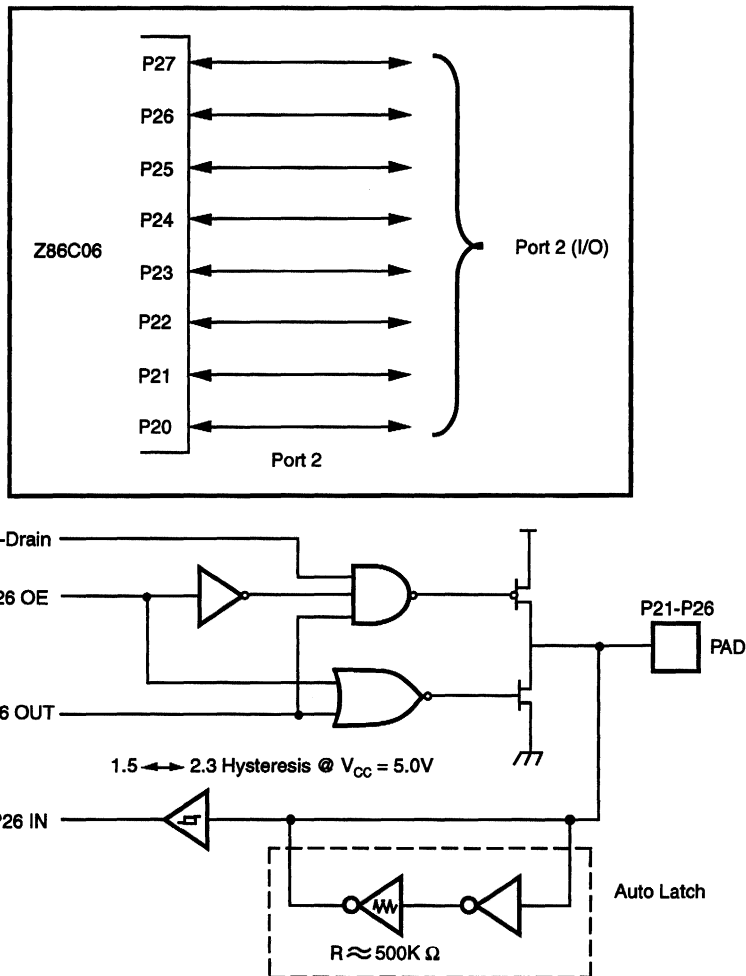

Figure 4a. Port 2 Configuration (Z86C06)
Port 2 (P27-P20). Port 2 is an 8-bit, bi-directional, CMOS compatible I/O port. These eight I/O lines can be configured under software control to be an input or output, independently. Input buffers are Schmitt-triggered and contain Auto Latches. Bits programmed as outputs may be globally programmed as either push-pull or open-drain (Figures 4a, 4b, and 4c). Low EMI output buffers can be globally programmed by the software. In addition, when the SPI is enabled, P20 functions as data-in (DI), and P27 functions as data-out (DO) for the SPI (SPI on the Z86C06 only).